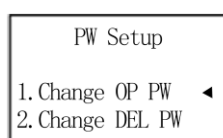

Fig. 9 Password change interface
- 2) Press the Menu key and enter the correct password to enter the main menu, find "4. Password modification by "▲" or "▼" and enter the entry, as shown in Figure 9. Enter "1. Change the Operation Password" or "2. Change and Delete Password" and enter twice the same new password to complete the password modification, and return to the password modification interface.